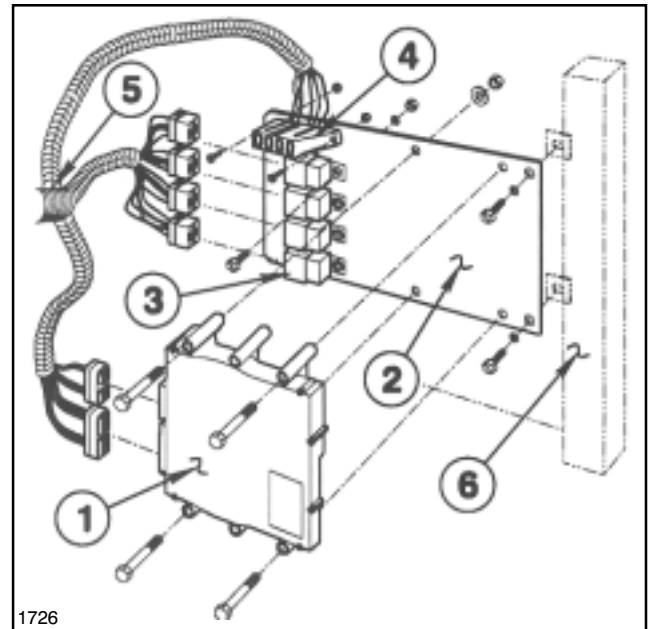
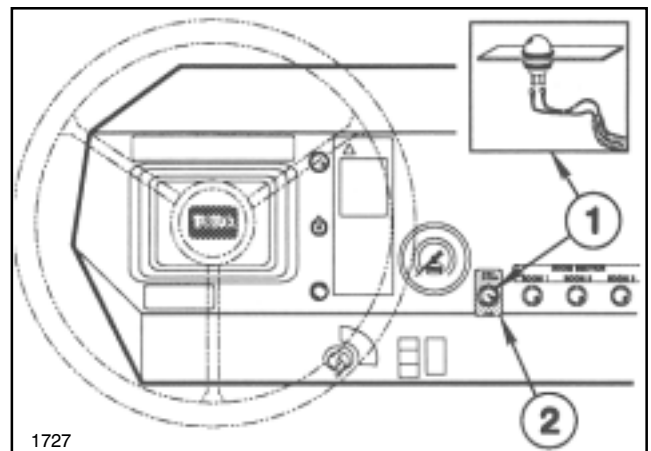

FIG. 1
FIG. 2
1. Mount ECU to Plate using four (4) 1/4 NC x 2-1/2" hex hd cap screws, lock washers and hex nuts. See FIG. 1.
2. Mount four (4) Relays to Plate using 1/4 NC x 5/8" hex hd cap screws, lock washers and hex nuts.
3. Mount Fuse Block to Plate using two (2) # 10 NCx5/8" rec. rd. hd. mach. screws and hex nuts.
5. Mount ECU plate to Vehicle post on right side under Dash, using two (2) 5/16 NC x 3/4" cap screws and lock washers. See FIG. 2.
6. Install Sonic Boom™ Decal and Indicator Light on Dash, and connect Harness Leads to Light. See FIG. 2.